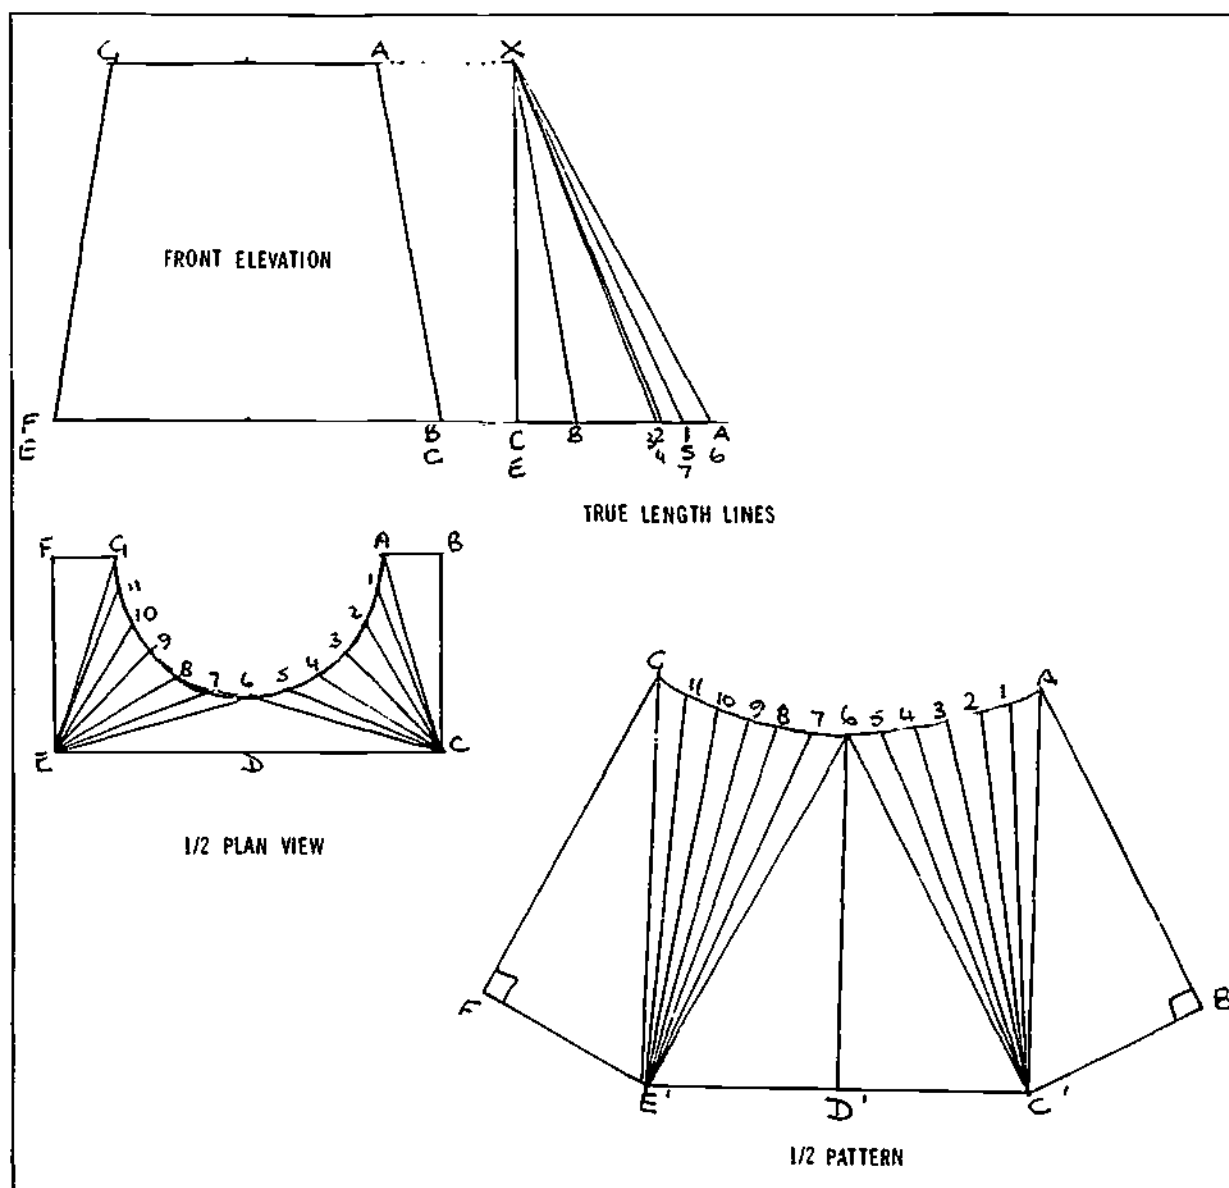

Figure 5-46. Square to Round Transition
- Step 1.** Draw the front elevation as shown in Figure 5-46. Since the transition is symmetrical, a full plan view is not required. In fact, a 1/4 plan would be sufficient; however, a 1/2 plan view is used to illustrate the numbering and lettering sequence. The semi-circle in the 1/2 plan is divided into 12 equal parts and the division points labelled and connected to C and E.